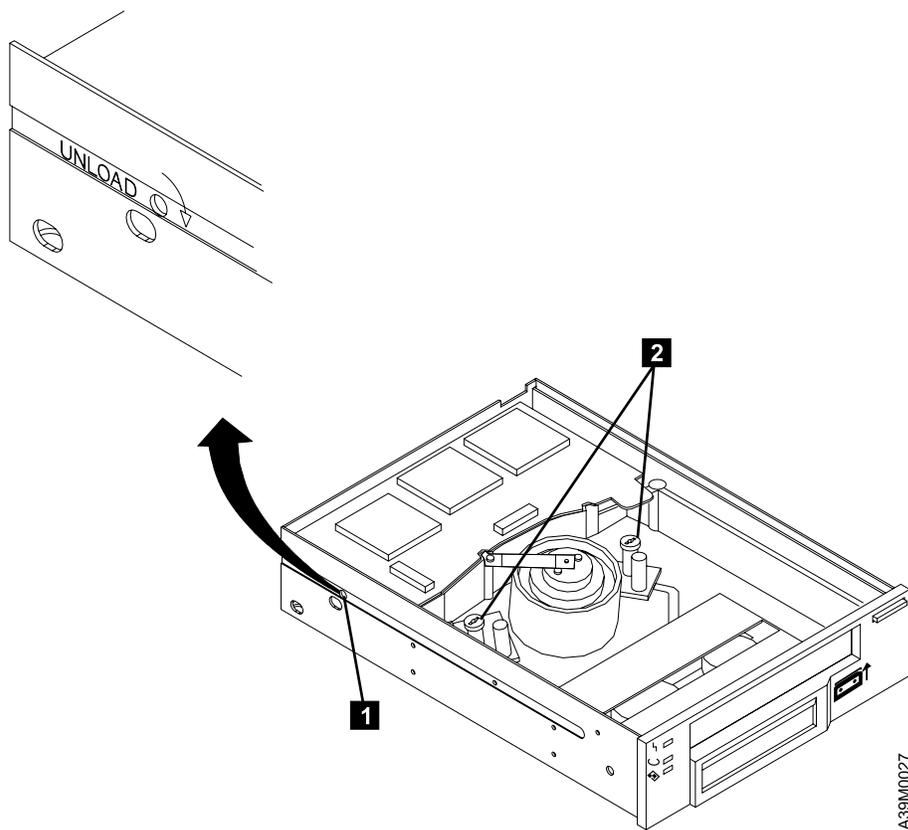

Figure 16. Moving the Trolleys
- a. On the left side panel of the drive (toward the rear) locate the hole marked UNLOAD (1 in Figure 16).